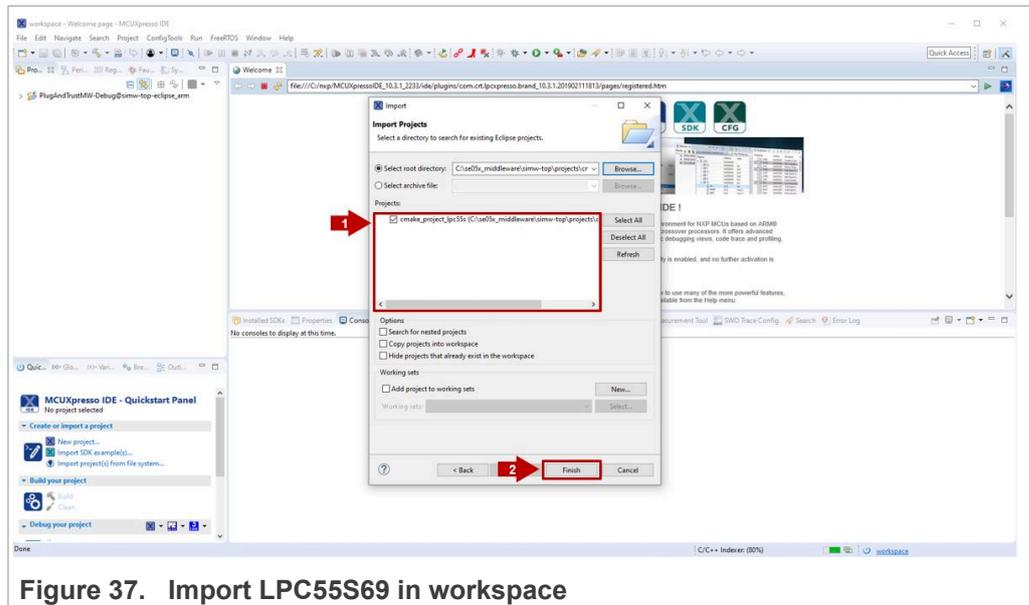

Figure 37. Import LPC55S69 in workspace
- After selecting `C:\se05x_middleware\simw-top\projects` folder, the `cmake_projects_lpc55s` project should be visible in the Projects area. Click *Finish* button to import this project into your workspace as shown in Figure 37: